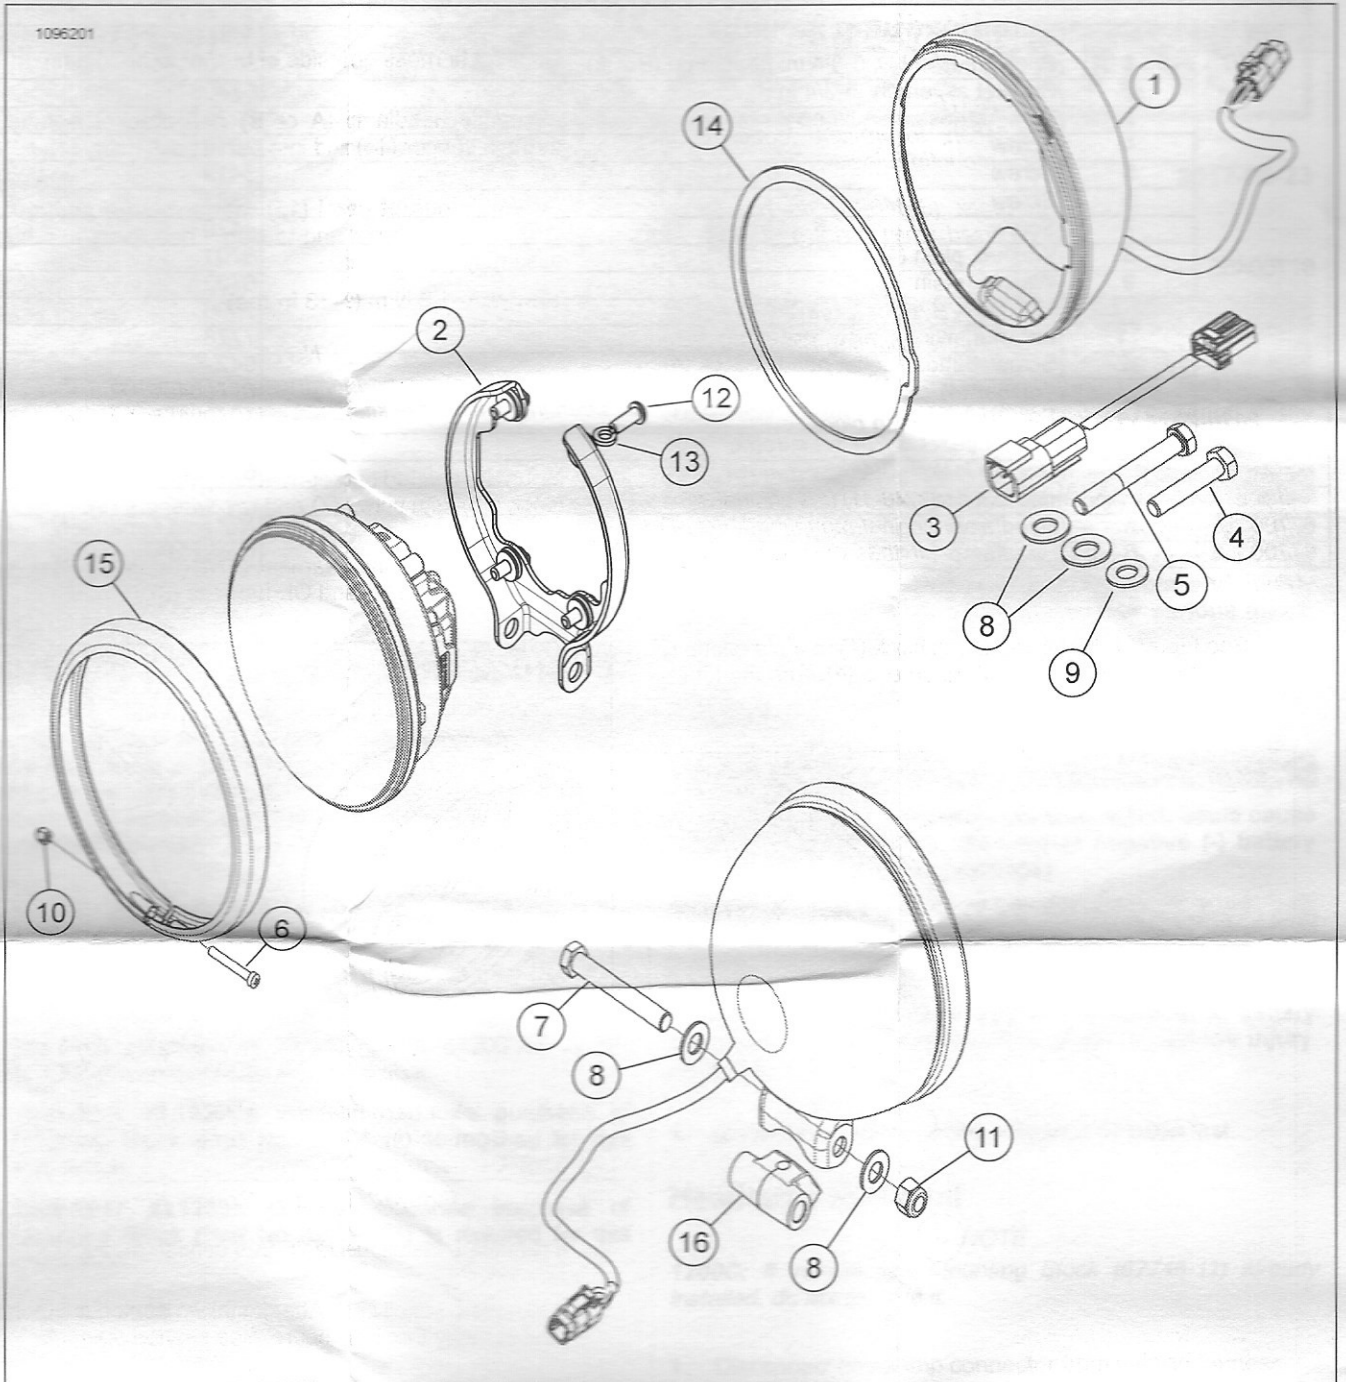

Figure 3. Service Parts: Headlamp Shell
See Figure 3 and Table 1.
3. See Refer to Figure 3. Assemble headlamp spacer (14) to headlamp bucket (1).
5. Assembly headlamp (A or B) and bracket isolator (2) through spacer (14) and into bucket assembly (1).
6. Assembly bucket bezel (15) with screw (6) and hex nut (10) to tighten bezel ring to clamp headlamp into bucket assembly (1). Tighten.